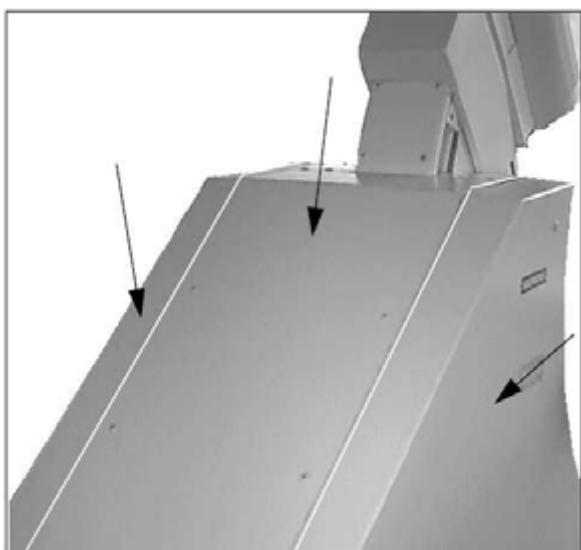

Fig. 28: Covers_A
- Remove the covers (\(Fig. 28 / p. 63\)) from the basic system and the X-ray tube.